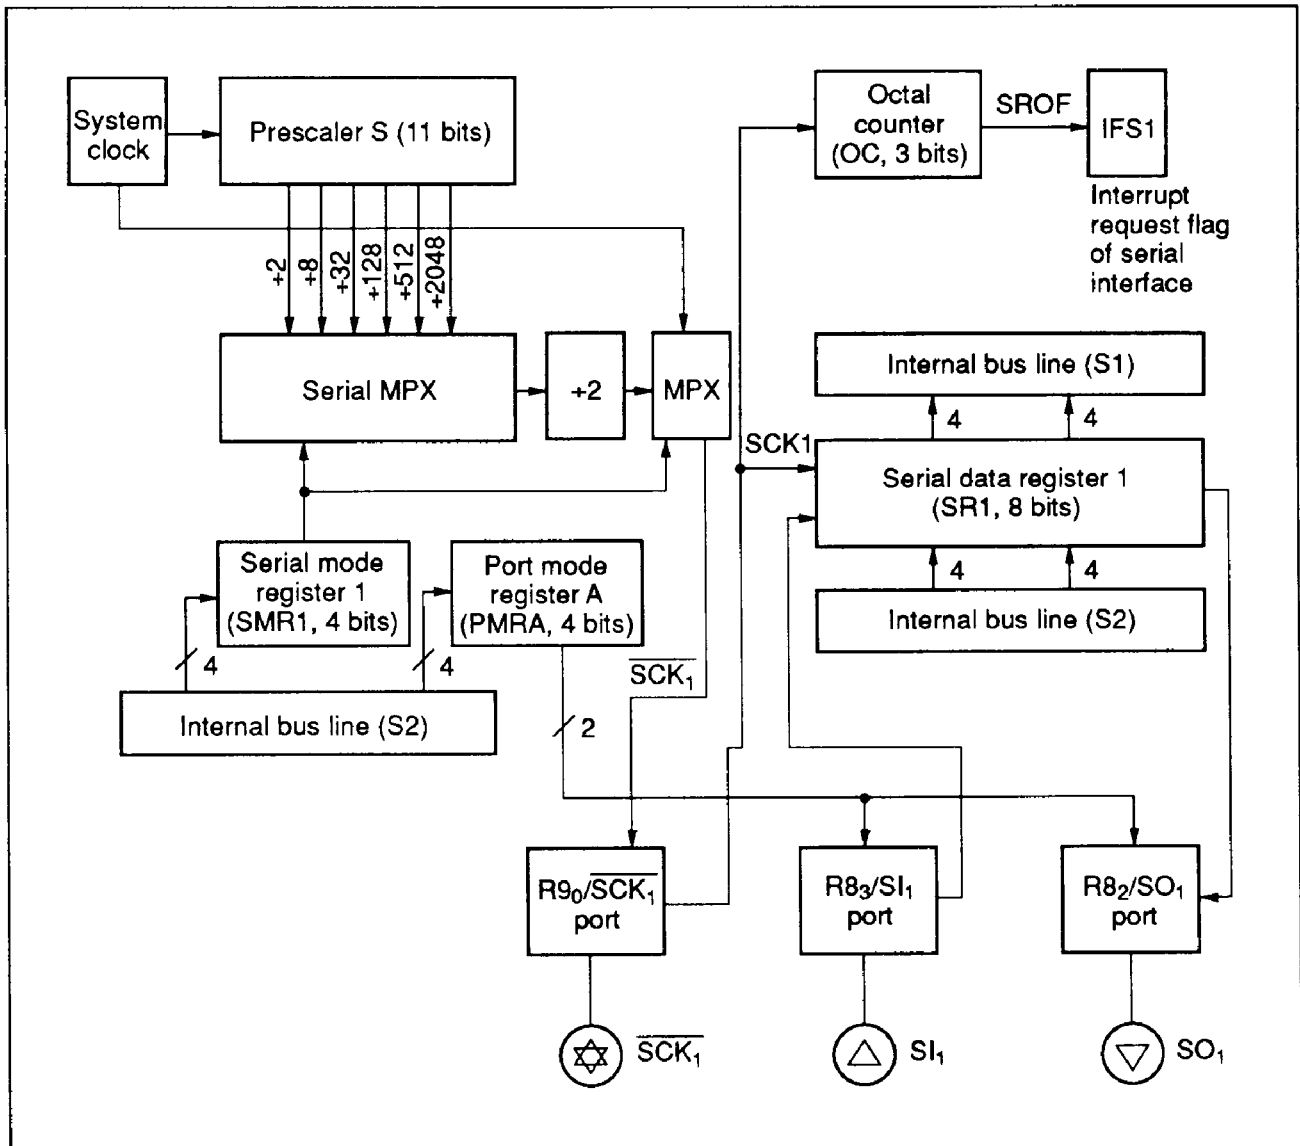

Figure 40 Serial Interface 1 Block Diagram
**Serial Interface 1:** Used to serially transmit and receive 8-bit data. It consists of serial data register 1 (SR1), serial mode register 1 (SMR1), port mode register A (PMRA), an octal counter, and a multiplexer as shown in figure 40. The R90/SCK1 pin and the transmit clock are controlled by writing data to SMR1. The transmit clock shifts the con-